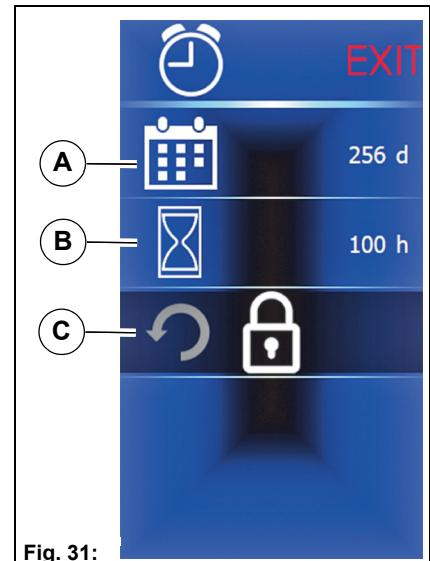

Fig. 31:
**Service alarm clock menu Fig. 31**